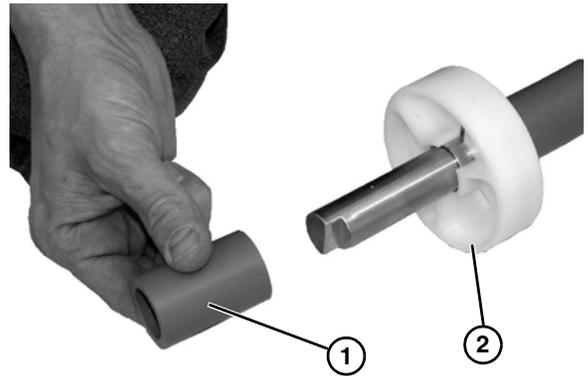

Figure 46
5. Slide off the round puck spacer (Figure 46, item 1).
6. Slide off puck and replace (Figure 46, item 2).